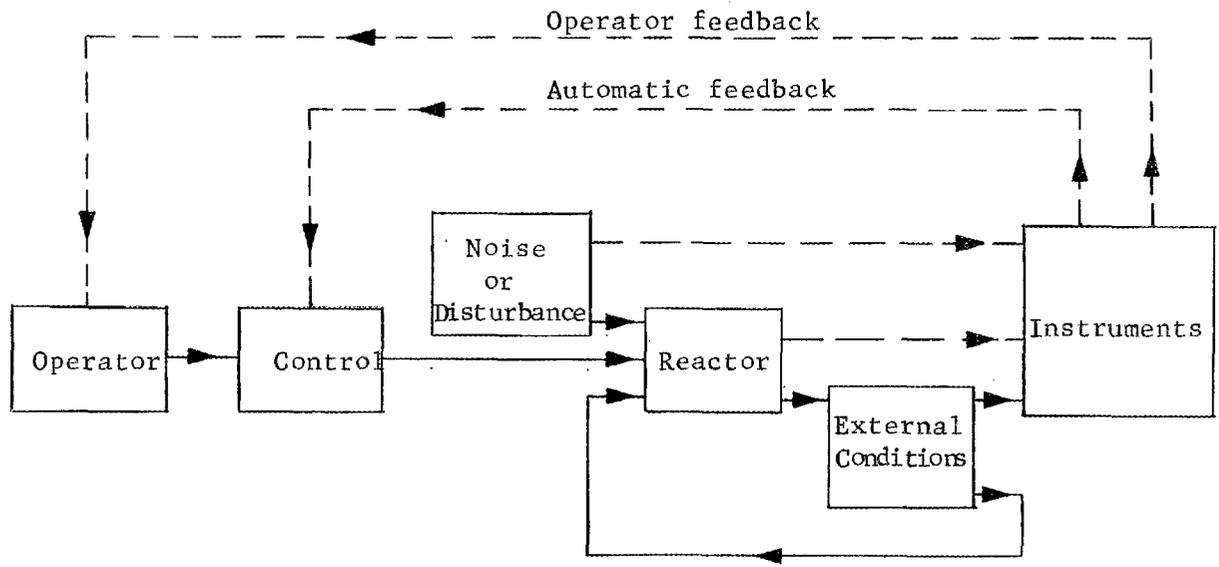

Fig. V-49. General Block Diagram of Reactor Operation System
3. Figure V-49 is a block diagram that shows how both the operator and the instruments co-operate to control the reactor; it also shows the "outside" factors that must be considered in any problem of control.
22. Now let us look at Figure V-49 again. Complete control of the reactor by operator response only would be quite difficult. When immediate response is necessary, people are much too slow. impossible
29. The conditions in Figure V-49 labeled "noise or disturbance" includes all of those factors that influence the reactor power to produce the random fluctuations and slow changes which make continuous control necessary. Some of these factors are xenon growth, fuel burnup, and coolant-flow variations.